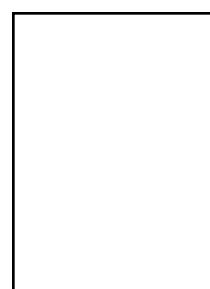

Figure 20
4. Attach storage strap to bracket using 1/4 x 20 x 2 1/2” socket head cap screws. (See Figures 20 and 21.)